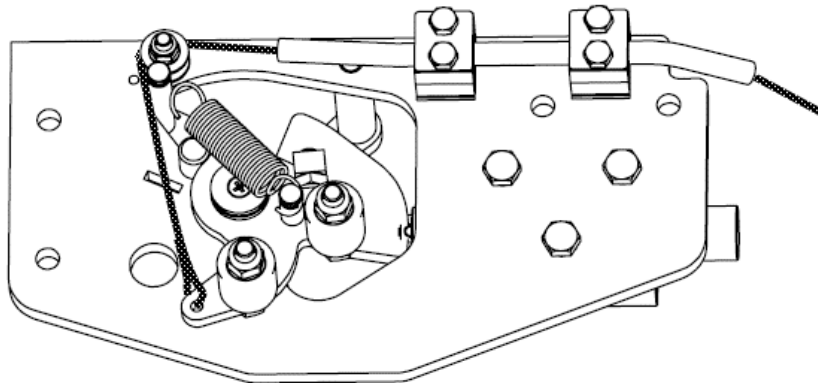

Figure 32. Cutter starting module – open position of the cutter.
- Ensure the ball valve under the cylinder is in the open position. Ensure the cutter starting module is in position as shown in **Figure 32**.